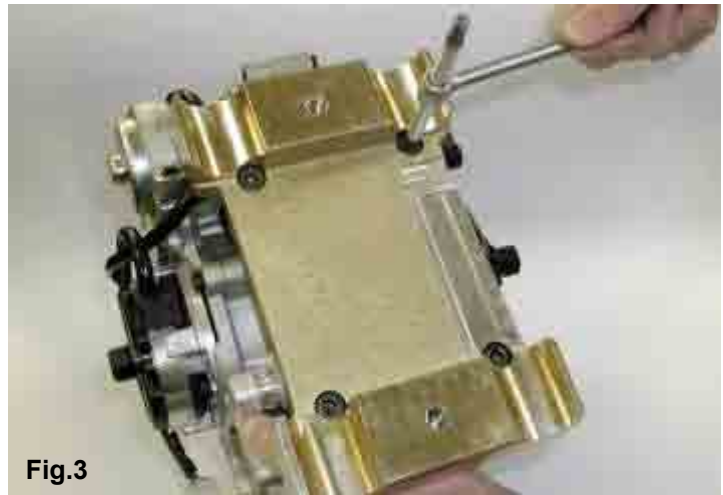

Fig.3
- COMPLETE INSERTION OF THE RADIATOR SUPPORT BRACKET IN THE RUBBER DAMPENERS (SEE FIG.3 AND 4).
2.4.2 INSTALL THE MOTOR-MOUNT: MAKE SURE TO USE M8 ALLEN SCREWS WITH A LENGTH SUCH AS TO ENGAGE, IN THE CRANKCASE A THREADED LENGTH OF APPROX. 16÷19mm (THE SCREWS MUST PROTRUDE FROM THE PLATE FOR APPROX 16÷19mm - SEE FIG. 3 AND DRAWING PAGE 10)